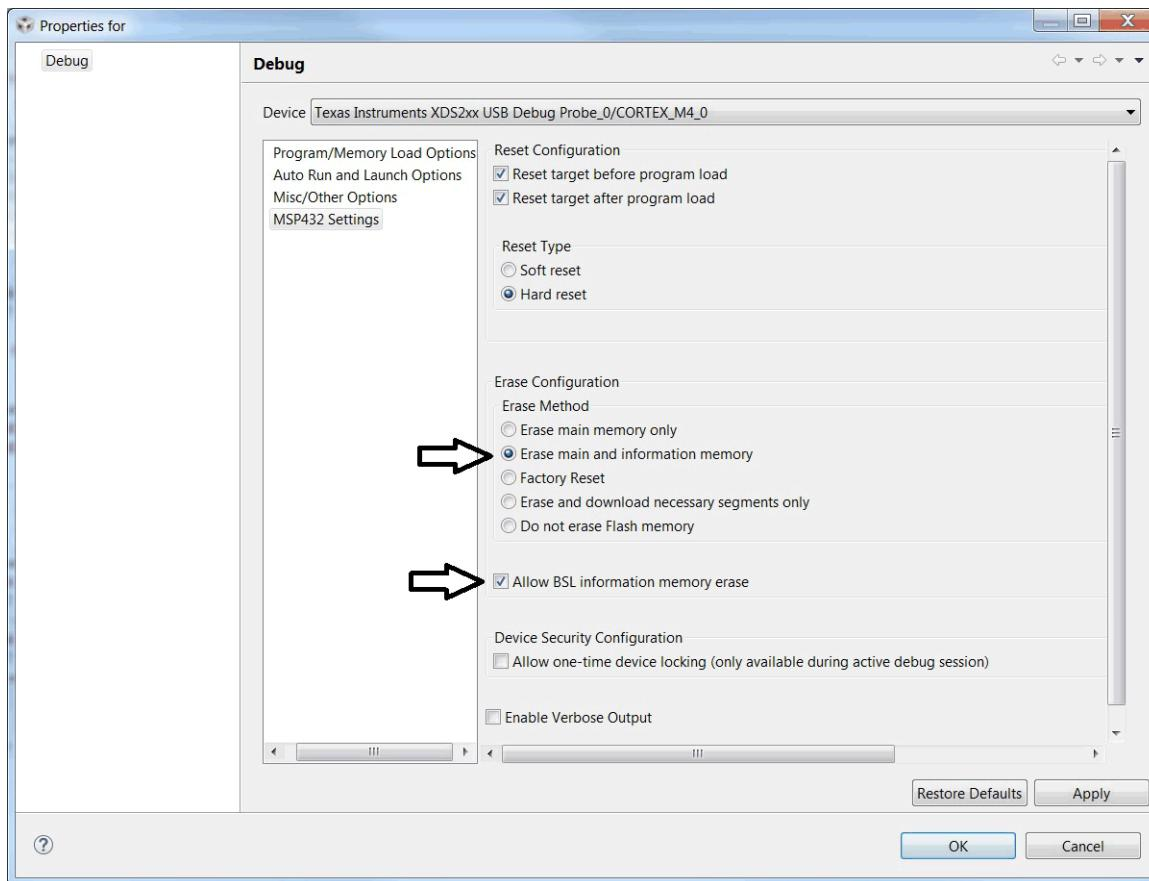

Figure 22. Properties for Debug
2. Select *MSP432 Setting* and then *Erase Configuration* → *Erase main and information memory*. Also check *Allow BSL information memory erase* (see Figure 22).